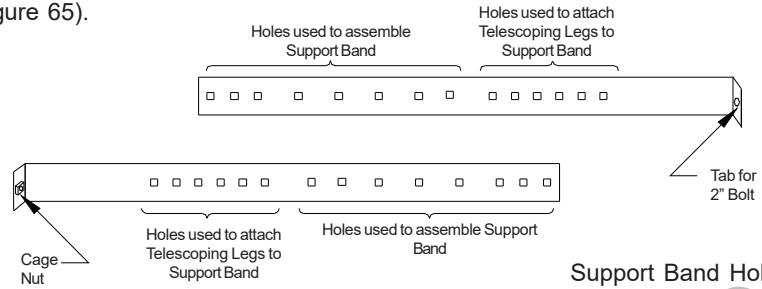
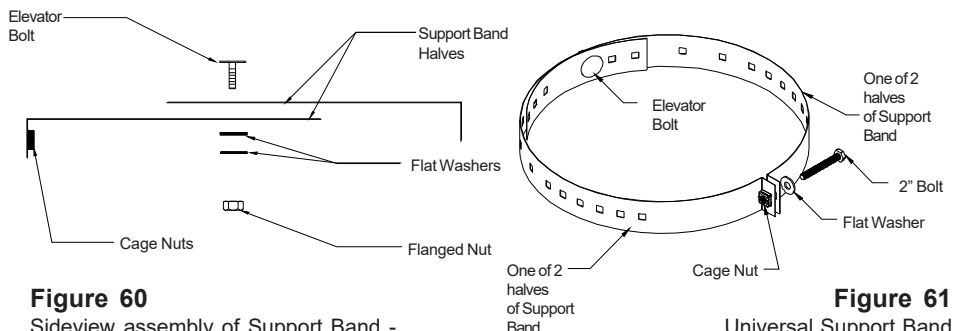

Figure 58
Figure 60
- Measure the outside (OD) diameter of your chimney.
- The Band is formed from 2 halves of single row of holes (see Figures 58 and 59), select the hole in each half that corresponds to the outside diameter identified with the chimney being installed. Place the two halves together. Insert an elevator bolt through the chosen holes (Ex - for a 10" OD chimney, place the elevator bolt through the holes identified for 10" OD). The elevator bolt should be oriented as shown in Figure 60. Secure the center bolt with washers and 1/4" flanged nut (see Figure 60). NOTE: On smaller diameter chimneys, the excess band material can be cut off.